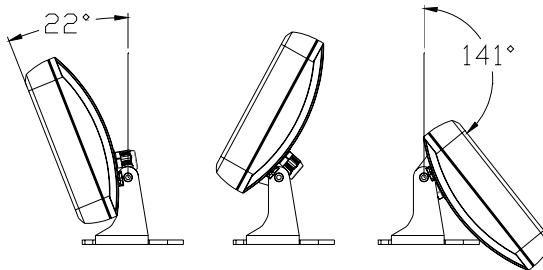

Figure 8: Adjusting Tripix Wash tilt angle
2. Adjust the fixture to the desired tilt angle (see Figure 8).